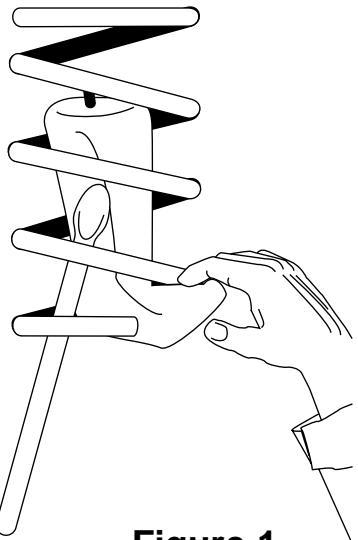

Figure 1
3. Insert flattened air cylinder into lowest opening with stem at the top. Push the cylinder up within the coil by hand or with a blunt instrument such as a spoon-type tire iron (see Figure 1).